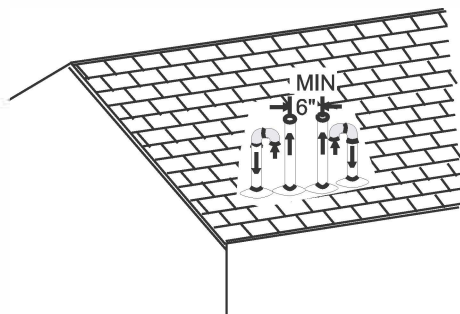

Fig 7-7 Double Vertical Combustion Air Intake and Vent Termination
3. **VENTILATED COMBUSTION AIR:** Combustion air is supplied through a PVC or ABS pipe that is connected to the PVC coupling attached to the burner box and is terminated in a ventilated attic or crawl space. The combustion air and the vent pipes are not terminated in the same atmospheric zone. Refer to Figure 7-7 for attic and crawl space termination. Only the combustion air intake may terminate in the attic. The vent must terminate outside.